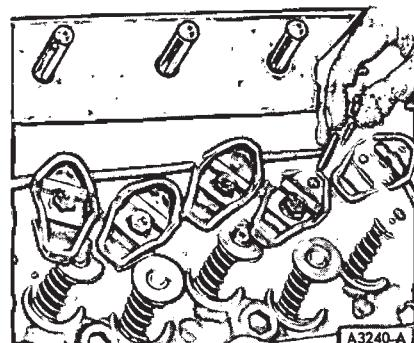

FIG. 12—Removing Valve Push Rod
- Loosen the rocker arm fulcrum bolts so that the rocker arms can be rotated to the side. Remove the push rods in sequence (Fig. 12) so that they may be installed in their original positions.